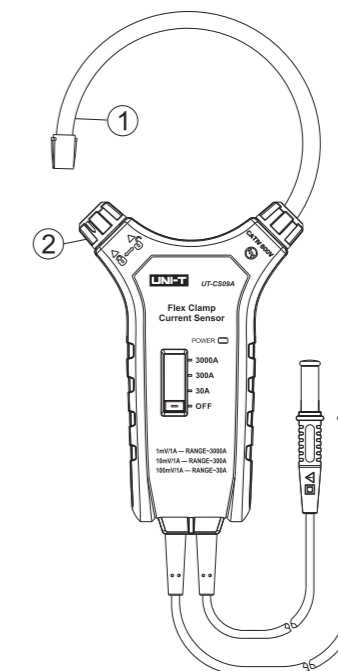

Figure 3
2. Unlock the Rogowski coil according to Section 5-B (see figure 3).